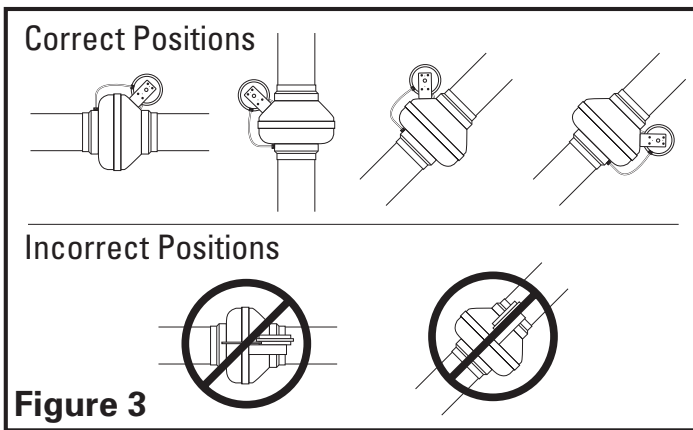
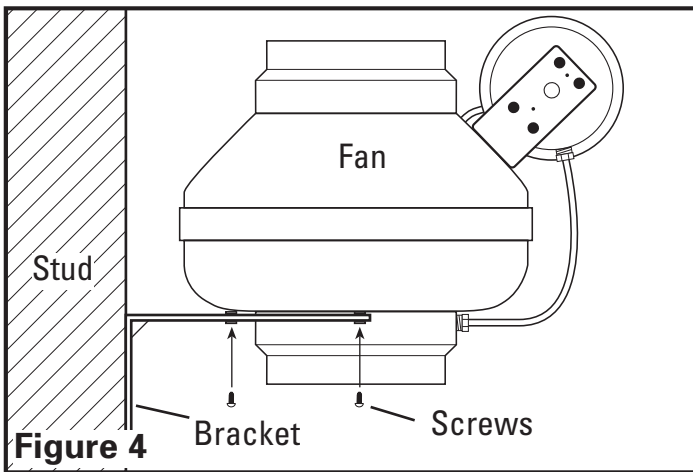

Figure 3
Figure 4
3. **Mounting the Fan:** For proper operation, the switch diaphragm must be positioned vertically (**Figure 3**). Wiring box should be positioned for easy access. Attach fan to the mounting bracket with the self tapping screws provided. Care should be taken not to strip the plastic housing. Although screw pilot holes are not required, 3/32" (or smaller) pilot holes are recommended (**Figure 4**).